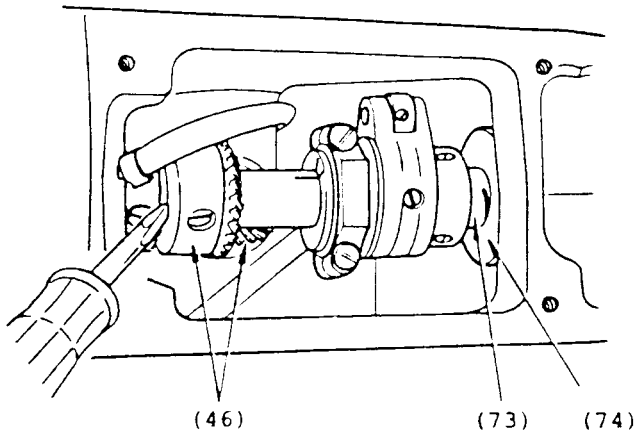
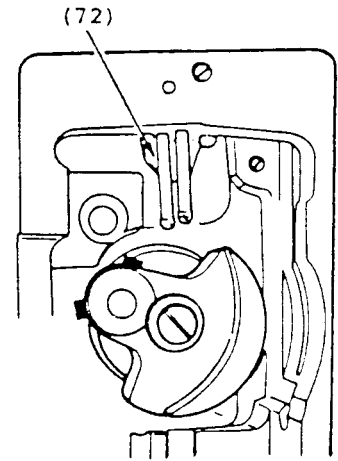

Fig. 34
Fig. 35
- Turn the needle bar crank until it is in the position shown in Fig. 35 to prevent crank from disturbing the two wick loops in holder (72), Fig. 35, during removal of arm shaft.
- While maintaining needle bar crank at position shown in Fig. 35, hold bevel gears in mesh by holding the blade of a large screwdriver between thrust collar and bevel gear, as shown in Fig. 34; then push the end of the arm shaft (73) through the bushing (74).
- Using another shaft (or a drift pin of the same diameter as the arm shaft on these machines), push the arm shaft (73) further through the machine (still keeping the gears at (46) in mesh). This temporary shaft must be pushed sufficiently far into the machine to hold the entire gear and feed eccentric mechanism in position upon it until the new arm shaft is installed. When inserting the temporary shaft (or a drift pin), make certain that every care is taken to avoid injury to the oil seal and ring in the arm shaft bushing (back) and consequent oil leakage.
- Make certain that the needle bar crank is turned to the position shown in Fig. 35, clearing the two wick loops in oil wick holder (72).